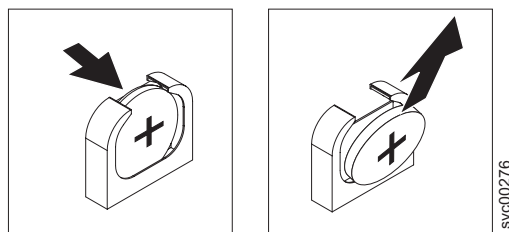

Figure 134. SAN Volume Controller 2145-8G4 CMOS battery holder
5. Remove the CMOS battery, as shown in Figure 134: